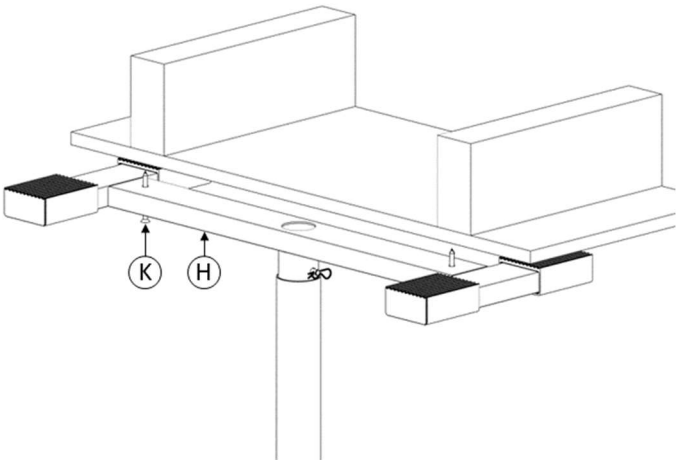

FIGURE 12
12. OPTIONAL: For additional security, use the provided screws, **K**, as shown in *FIGURE 12*, making sure that **K** goes into the Ceiling Joists.